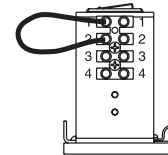

Figure 30
4. Using a short jumper cable, jump terminals 1 and 2 to activate unit. When door reaches 20°, flip Breaker Switch to "OFF" position cutting power to unit. Allow door to fully close (door may be manually pulled closed). (Figure 30)
(Figure 30)